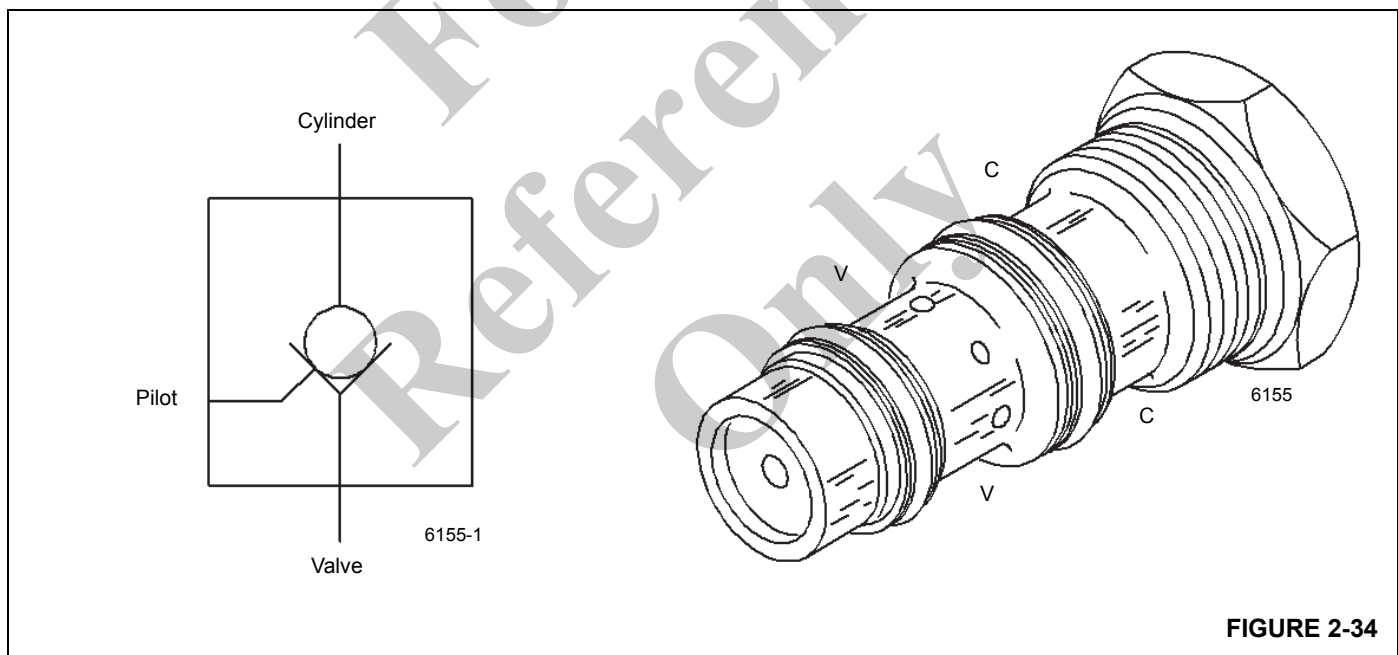

FIGURE 2-34
A pilot operated (PO) check valve is located in each outrigger stabilizer cylinder port block Figure 2-34. The check valve functions as a holding valve for the stabilizer cylinder. Oil flow is directed from the "V" port to the "C" ports, while blocking flow in the opposite direction. Flow is reversed from "C" to "V" when pressure pilot oil is applied to the opposite side "V" port.